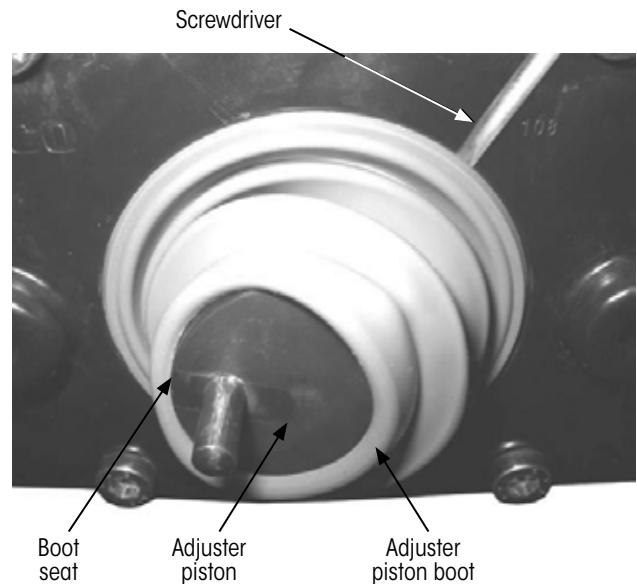

Figure 76: Removing adjuster piston boot
2. **Pull** the adjuster piston boot from the boot seat of the adjuster piston (Figure 76).
3. **Position** the screwdriver between the adjuster piston boot and cover (Figure 76).